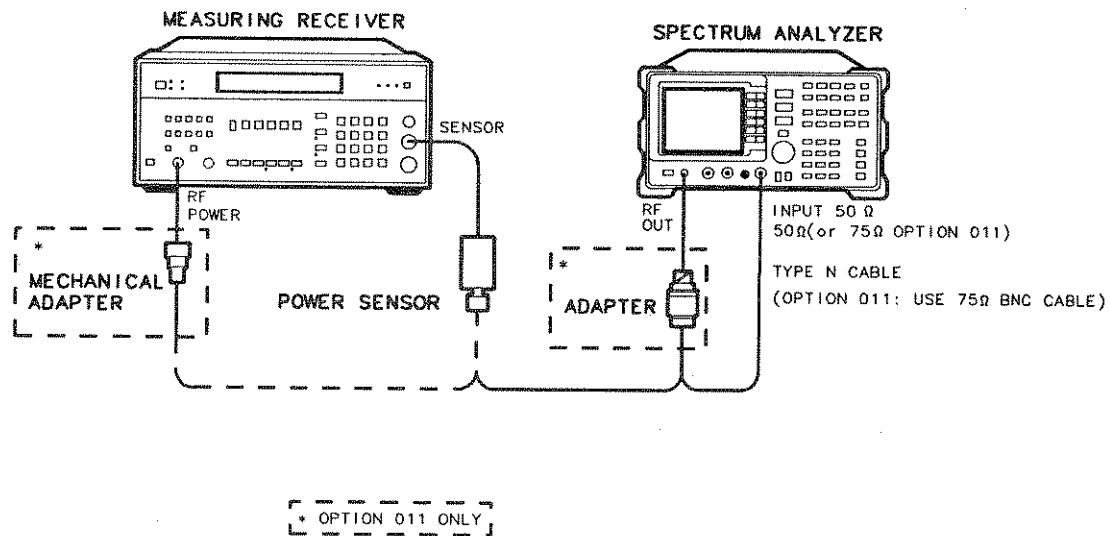

Figure 3-28. Tracking Generator Level Flatness Test Setup
1. Connect the Type N cable between the RF OUT 50Ω and INPUT 50Ω connectors on the spectrum analyzer. See Figure 3-28.